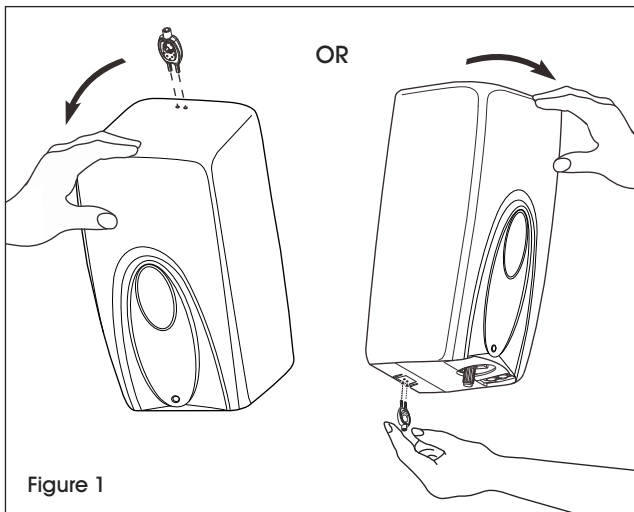

Figure 1
1. Insert key into key holes located at top or bottom of dispenser. Pull dispenser cover toward you to open. (See Figure 1)